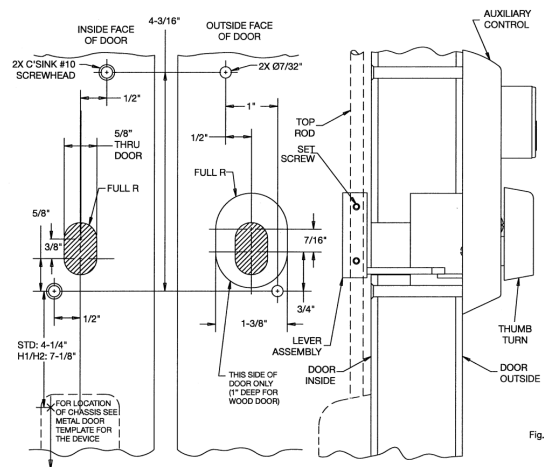

Fig. 1
2. Prepare the door for the Auxiliary Control (Fig. 1).
3. Slide top rod into lever assembly and position lever as indicated (Fig. 1). Adjust top rod according to exit device instructions.